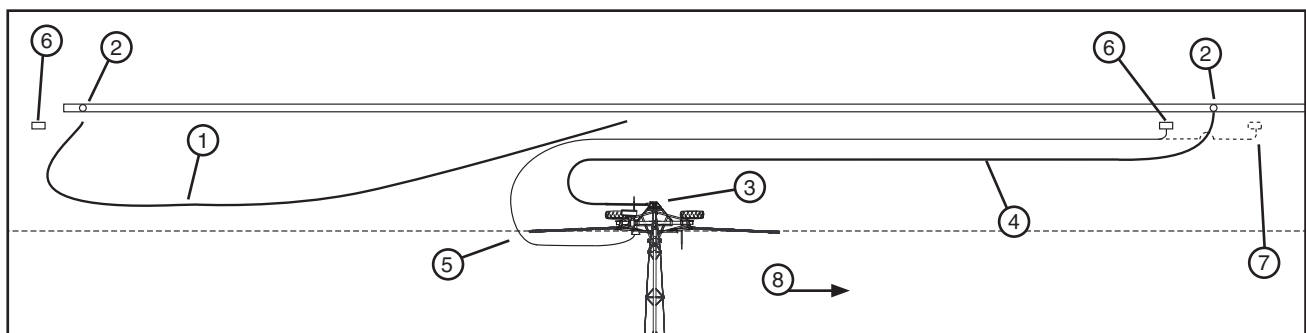

Figure 55-2 1. First Hose 3. Swivel Inlet 5. Electric Cord 7. Alternate Power Pedestal Location and Electric Cord Position
7. Disconnect the first hose from the shut off valve so that water from the hose drains away from the cart path. Then unlatch and disconnect first hose from swivel inlet. See figure 55-2.
8. With second hose connected to shut off valve, position second hose, connect to swivel inlet and latch in place. Reposition the end of field/hose stop for the length of the second hose being used. See figure 55-2.
- (c) Position the electric cord far enough away from the hose, so that the hose will not drag over it. When applicable, prevent interference between the electric cord and hose by positioning the electric cord over the top of hose. See figure 55-2.